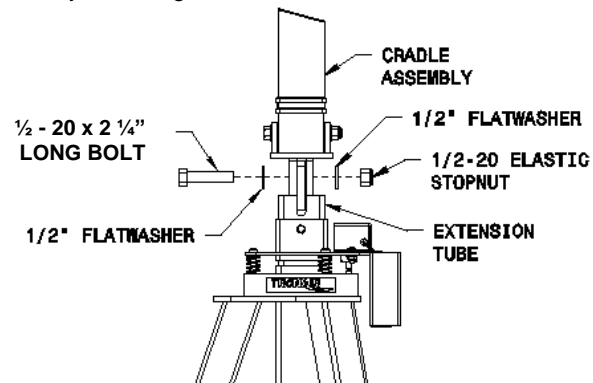

FIGURE 3 (for reference)
2. Fasten cradle assembly to extension tube with one (1)  $\frac{1}{2}$  - 20 x 2  $\frac{1}{4}$  inch hex head bolt,  $\frac{1}{2}$  inch flatwasher, and  $\frac{1}{2}$  - 20 elastic stopnut. **reference Figure 3.**